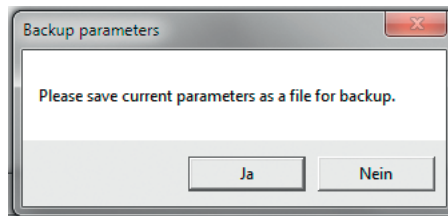

Fig. 6.66 “Upgrade/Downgrade firmware” – “Backup parameters”
- ▶ “Lightening” opens a new **“Backup parameters”** message window to produce a backup copy of the device parameters (see Fig. 6.66).